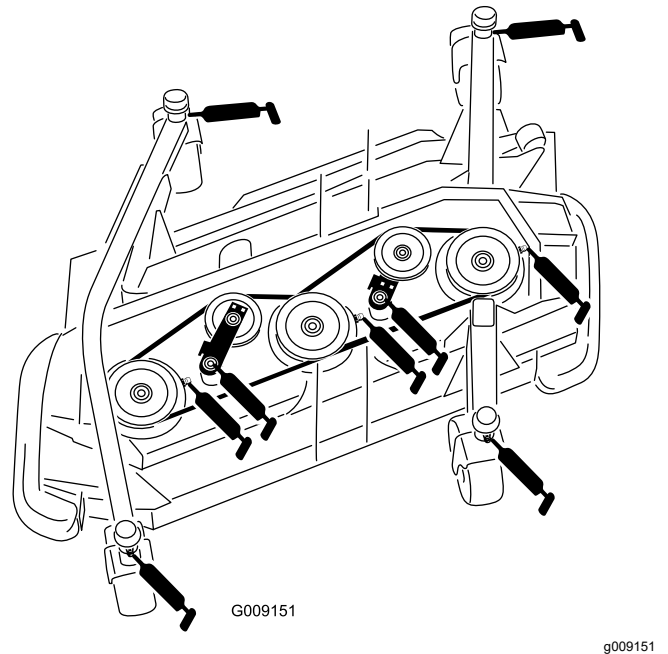

Figure 85
- 3 spindle-shaft bearings (located on the spindle housing) as shown in Figure 85
- 2 idler-arm-pivot bushings (located on the idler-pivot shaft) as shown in Figure 85
- 4 caster-fork-shaft bushing (Figure 85)